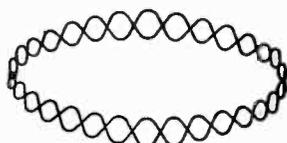

Figure 26
*Figures 10 to 16 inclusive, and Figures 26 and 27 adapted from "Frequency Measurements with the Cathode Ray Oscillograph," Frederick J. Rasmussen, A. I. E. E. Transactions, November, 1926, Vol. XLV, Pages 1256-65.